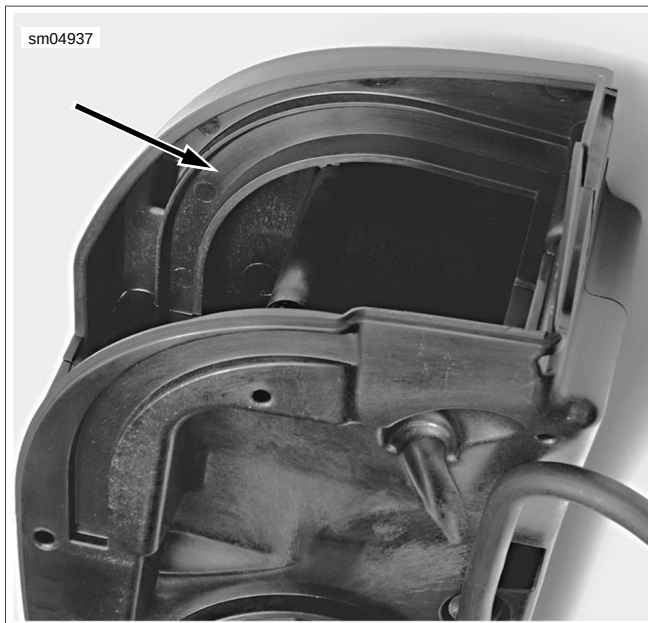

Figure 1-103. Filter Element Channel
1. Form **new** air filter element into a curved shape. Slide top of air filter element up into opening in airbox. See Figure 1-103. Top of air filter element must fully fit into channel in top of airbox.